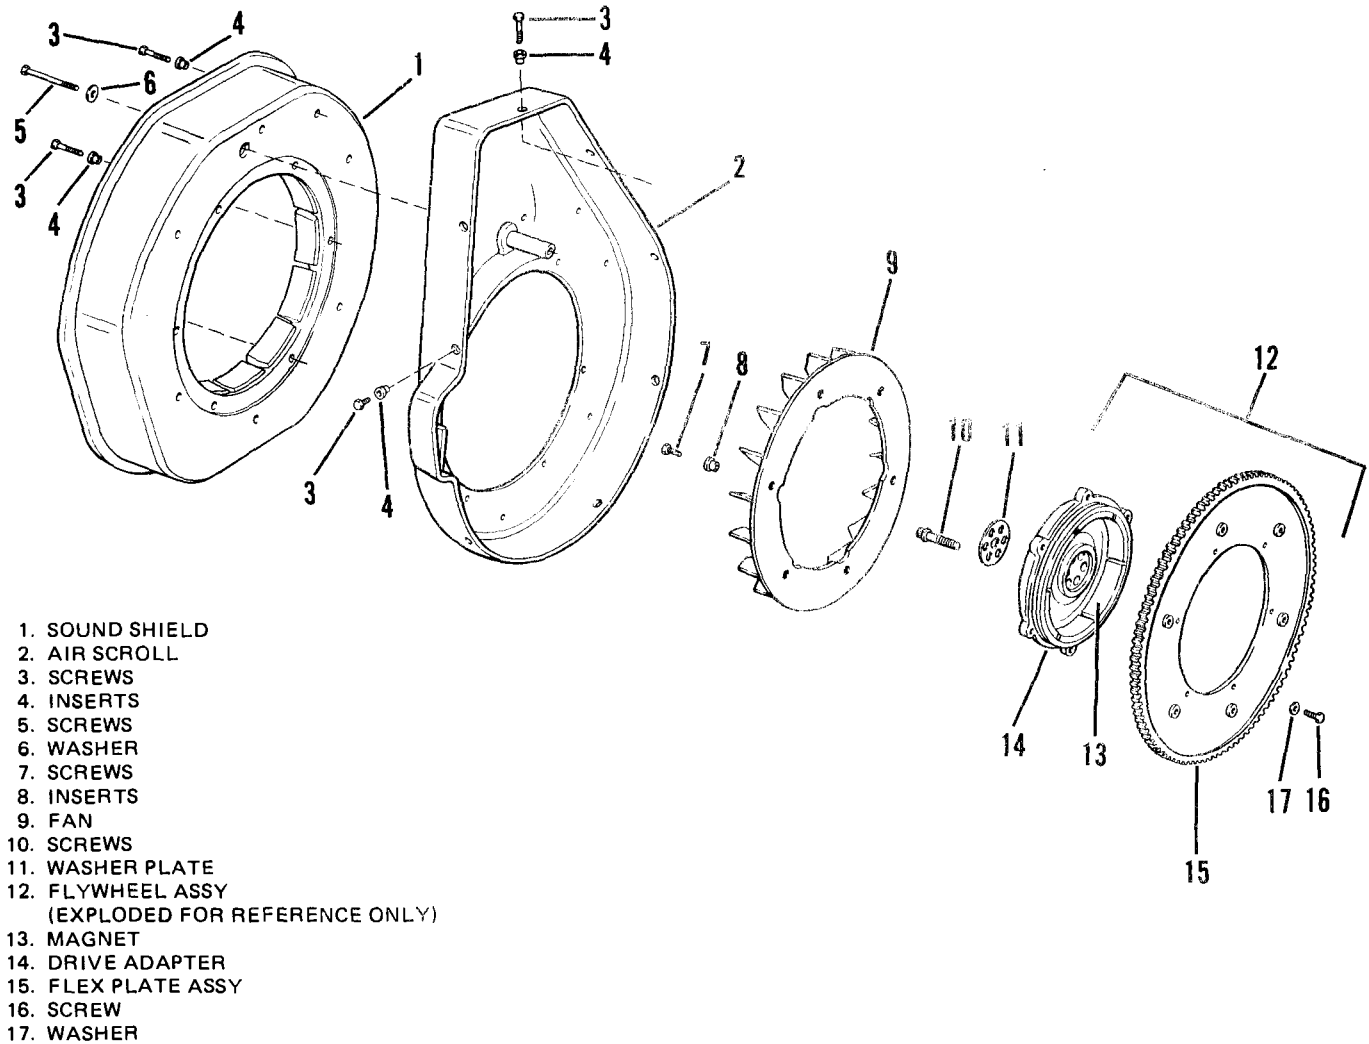

Figure 7-22. Flywheel and Engine Fan.
- (1) Remove frame, refer to paragraph 3-2.
- (2) Remove lifting eye and wrappers, refer to paragraph 7-6.a (1), Removal.
- (3) Remove sound shield (1, Figure 7-22) and air scroll (2) as an assembly. Remove screws (3) inserts (4), screw (5) and washer (6) through access hole in sound shield.
- (5) Install inserts (8, Figure 7-22) and screws (7) to secure fan. Tighten screws (7) to a torque of 5-6 ft lbs (7-8 N.m).
- (6) Install air scroll (2) and sound shield (1) as an assembly.
- (a) Place air scroll (2) and sound shield (1) as an assembly on engine.